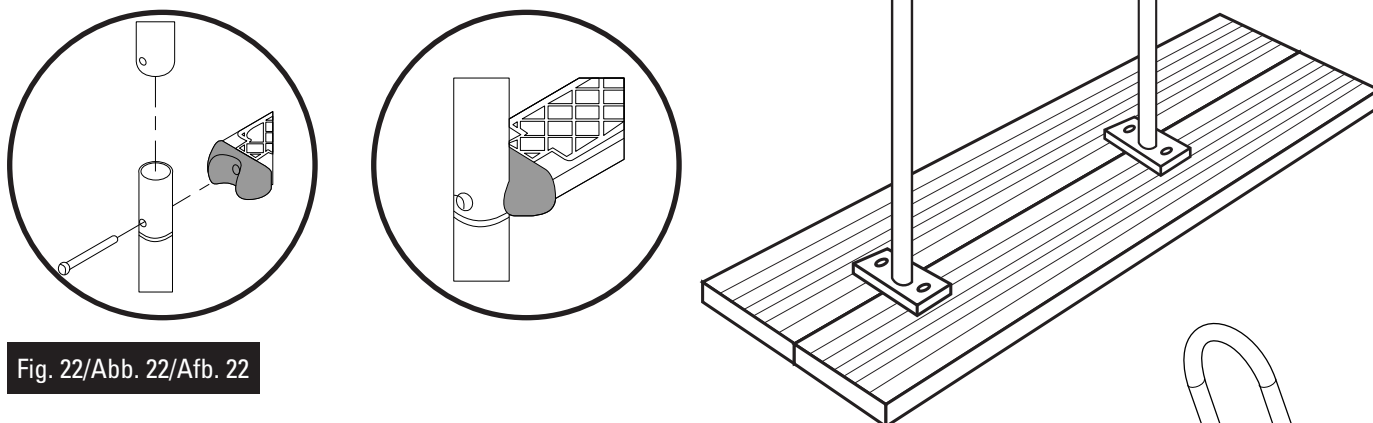
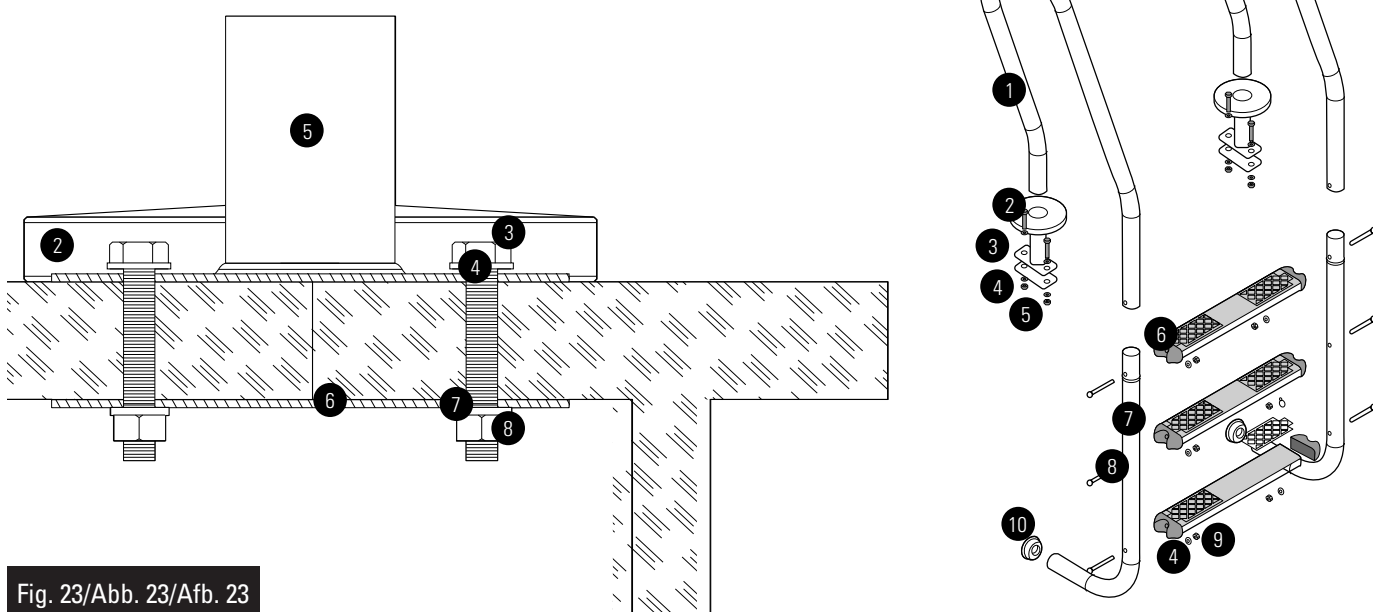

Fig. 22/Abb. 22/Afb. 22
Fig. 23/Abb. 23/Afb. 23
- EN A.- Slot in the upper (1) and lower (10) handrails, fasten them with the steps (9) and the steps to the handrails using screws (11), nuts (8) and washers (7). (Fig.22)
B.- Assemble the end pieces (12) of the handrail so that the ladder cannot damage the pool.
D.- Place against flange with the screws (3) and washers (4,7) and nuts (8) and fasten with spanner 12-13. (Fig.23)
E.- Insert the trim (2).